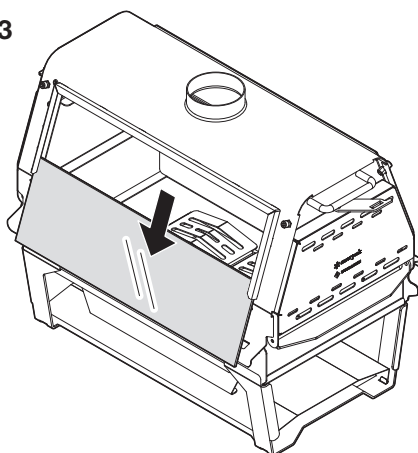

Fig. 4
④ Slowly insert the new glass. (Fig. 4)